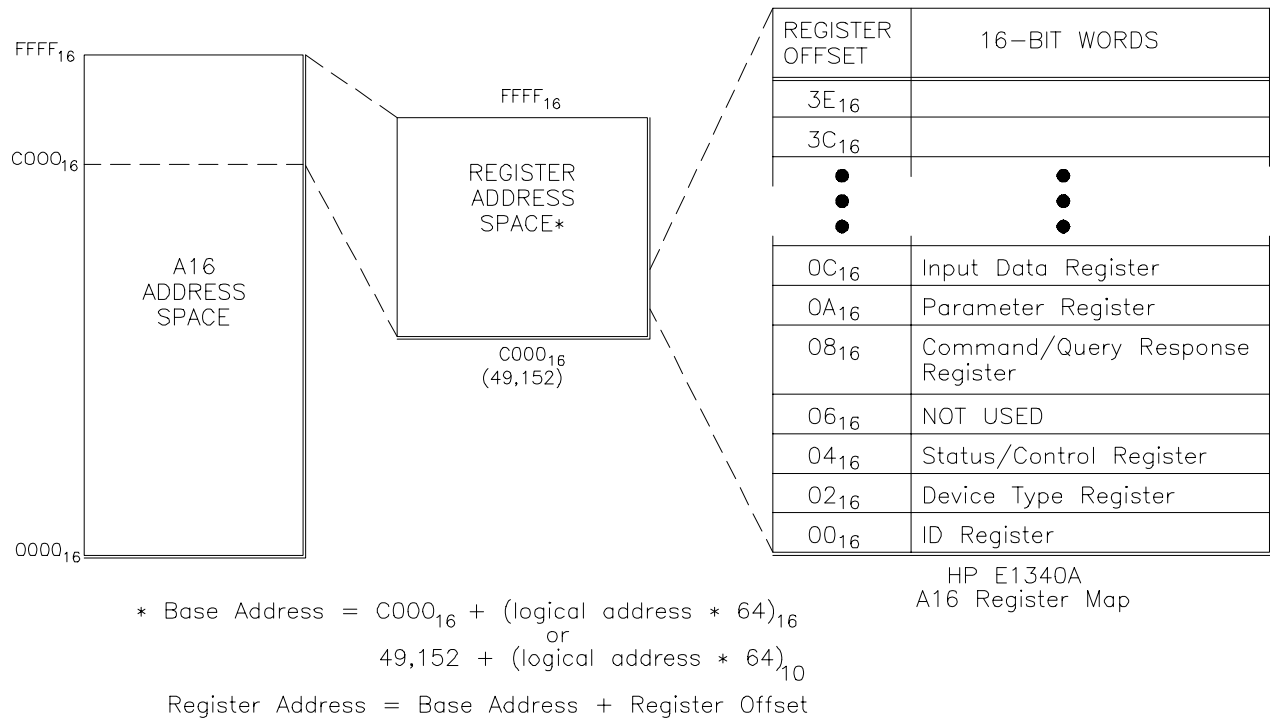
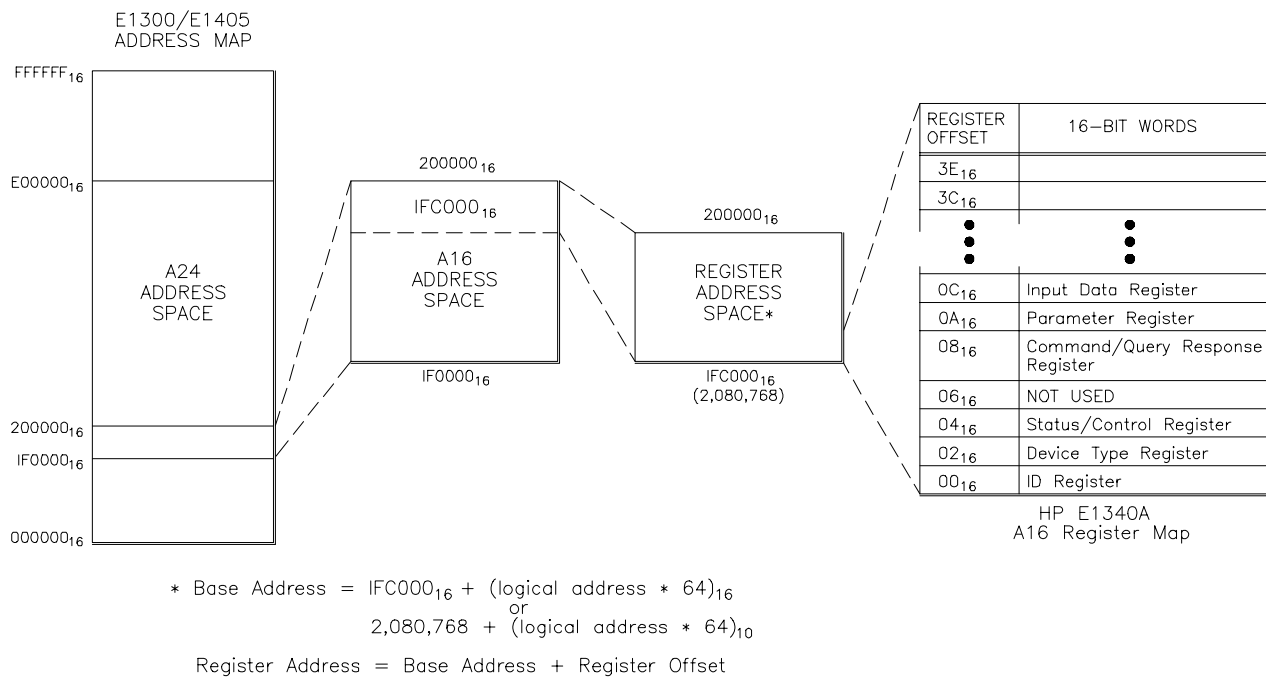

Figure C-1A. HP E1340A AFG Registers within A16 Address Space
Figure C-1B. AFG Registers within HP E1300/E1405 A16 Address Space
Figure C-1A shows the register address location within A16. Figure C-1B shows the location of A16 address space in the HP E1300/01 Mainframe and HP E1405/E1406 Command Module.
The A16 base address used in register-based programming depends on whether the A16 address space is located inside the E1300(01) Mainframe/E1405/E1406 Command Module or elsewhere (e.g. embedded computer). Figures C-1A, C-1B, and Table C-1 enable you to determine the base address for the following computer configurations:
Using select code 8 requires that you specify a **register number**. The register number is the register offset/2. Referring to Figure C-1A, the Command Register with an offset of 08, is register number 4.